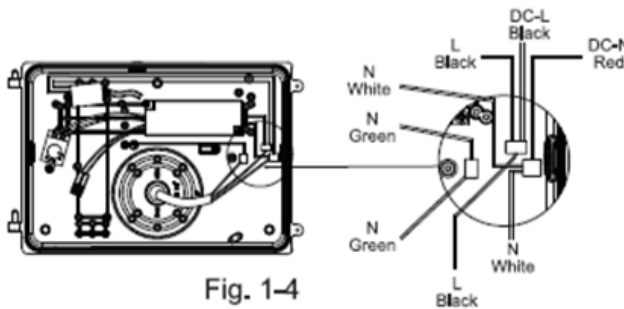

Fig. 1-4
4. Make electrical connections per electric code. Connect black wire to LINE, White wire to NEUTRAL and Green or Green/Yellow to GROUND (Fig. 1-4). Re-attach the front cover of the fixture and re-connect the quick connect terminal (Fig1-5A).